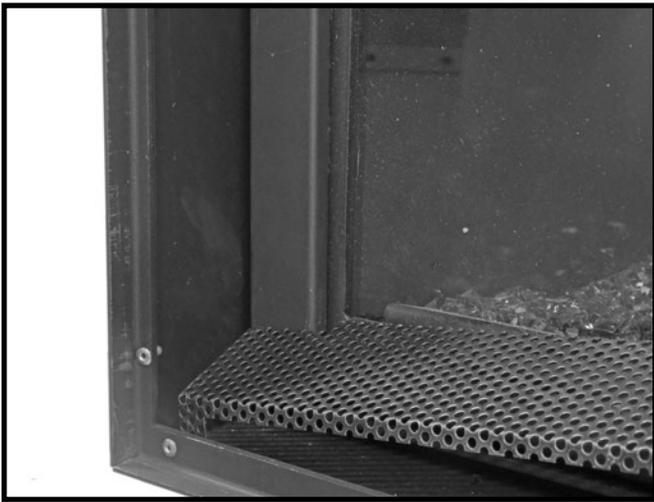
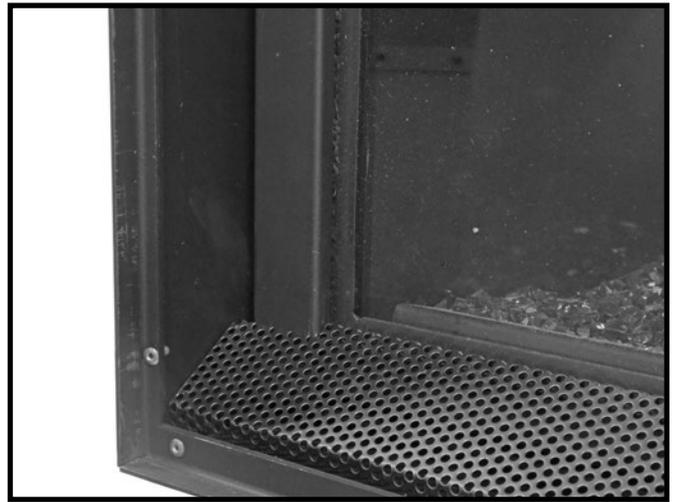

Figure 83: Installing bottom trim.
Figure 84: Bottom trim in place.
4. The meshed trim piece for the bottom rests on the floor and in the gap between the outer-most door frame and the fireplace glass (Figure 83 and Figure 84)..